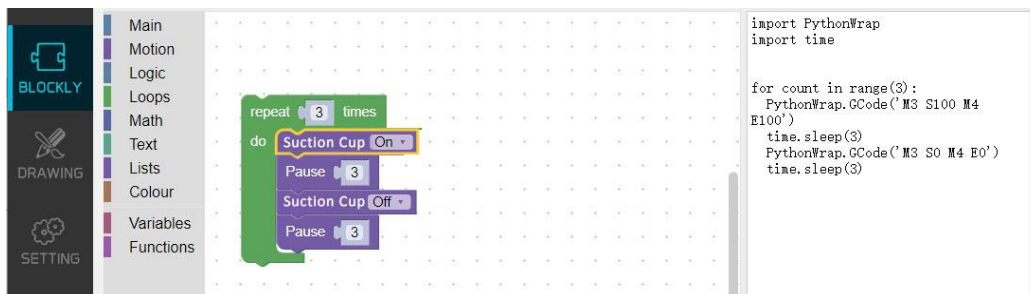

Figure 3.42 Controlling the pneumatic tool in the BLOCKLY function
- In the BLOCKLY page, control the pneumatic tool by drag and edit the **Suction Cup module** which can be found in the **Motion** panel. Figure 3.42